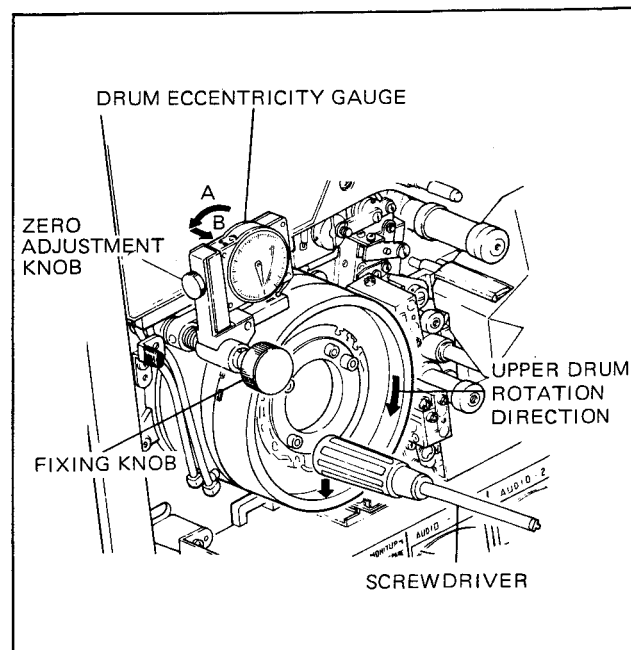

Fig. 3-7. Upper Drum Eccentricity Adjustment
10. Press the stopper of the gauge against the lower drum and tighten the fixing knob on the position shown in Fig. 3-7.
11. Turn the gauge in A direction as shown in Fig. 3-7 and move it in B direction until it stops. Then turn the gauge slowly back toward the drum.